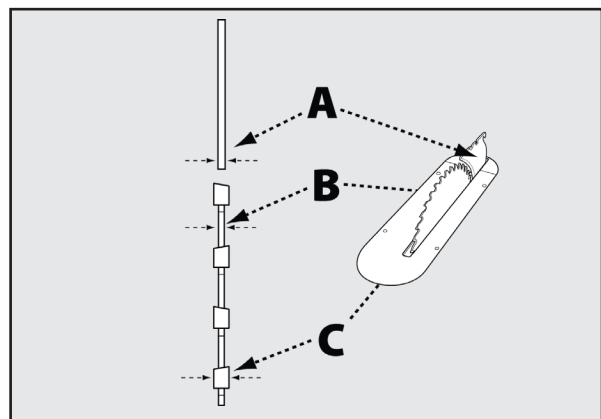

FIGURE 18
The riving knife thickness (A) must be greater than the blade body or plate thickness (B) and less than the kerf or cutting width (C) as shown in Figure 18. The riving knife provided with this saw is 2.2mm thick and may be used only with a 10-inch (254mm) blade with 0.102-inch (2.6mm) minimum kerf width and 0.073-inch (1.8mm) maximum body thickness. Do not attempt to use this riving knife with blades that are not within these dimensions.